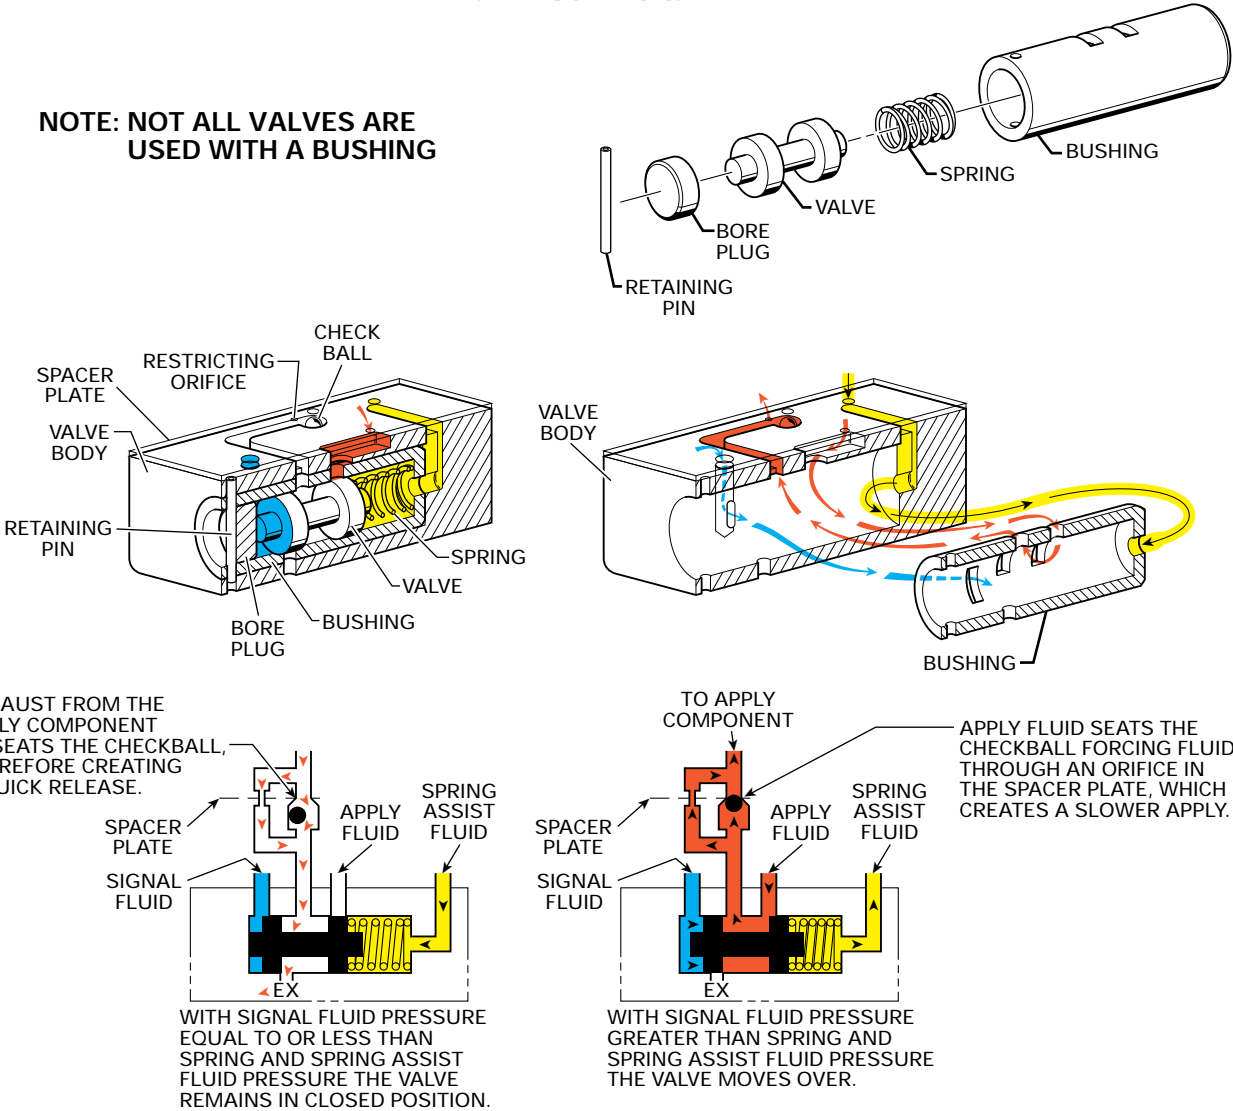

Figure 4
- Figure 4 (page 7B) provides an illustration of typical valve, bushing and valve train components. A brief description of valve operation is also provided to support the illustration.